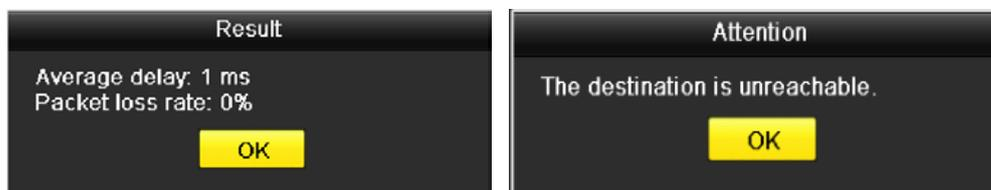

Figure 9.24 Testing Result of Network Delay and Packet Loss
4. Click the **Test** button to start testing network delay and packet loss. The testing result pops up on the window. If the testing is failed, the error message box will pop up as well. Refer to Figure 9.24.